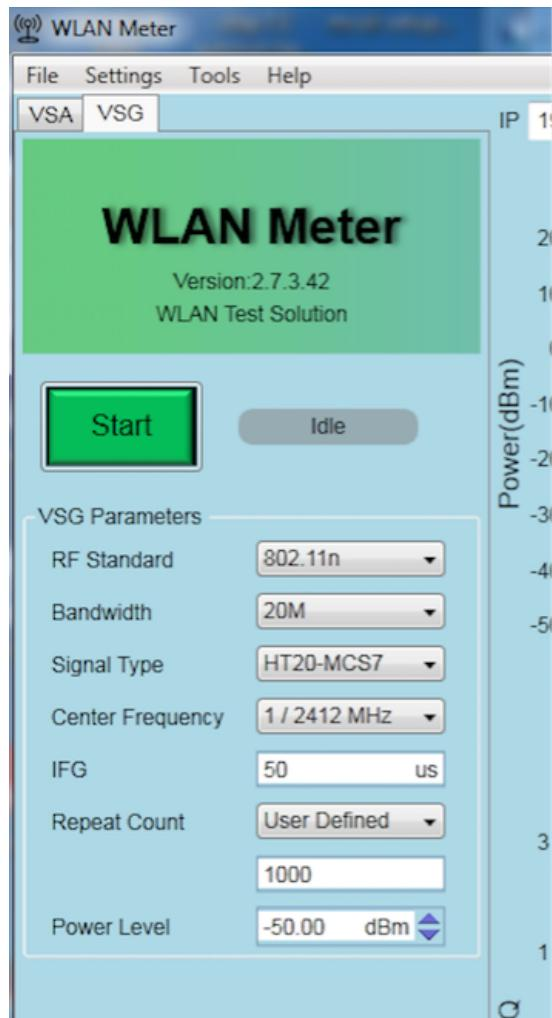

Figure 4-16. WT-200 Configuration for Test Environment #3
- Configure the VSG parameters in the WLAN Meter. Set **Signal Type** to MCS7 and define **Repeat Count** as 1000. WT-200 configuration for the test environment is shown in Figure 4-16.